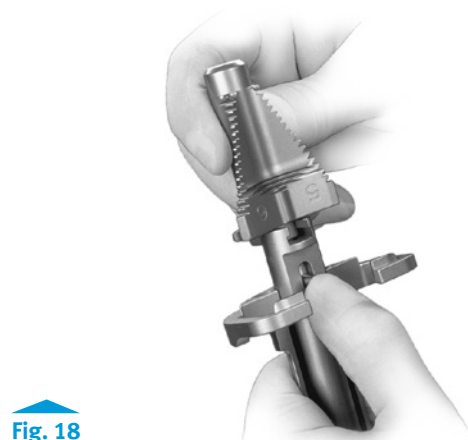

Fig. 18
- Attach the appropriate size Tibial Broach to the RH Knee 0° Broach Impactor (Fig. 18).